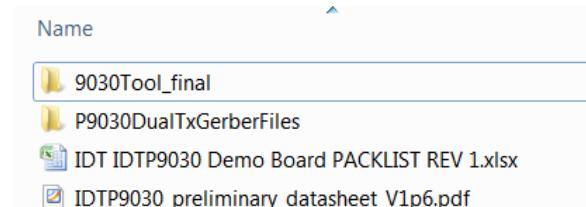

Figure 19. File folder structure on the CDROM.
4. Next, install the Wireless Power Demo Windows GUI software by executing the Setup.exe file in the folder "9036Tool\_final" (Figure 19).
To install the GUI, open the IDTP9036-DEMO CD and run the file: setup-1.0.0.11.exe within the 9036Tool\_final folder. I.e. the path is 9036Tool\_final/setup-1.0.0.11.exe shown in figure 19 or 22. Follow the Setup Wizard instruction shown in Figure 23. This will install the GUI and driver automatically. After the installation process is complete, you may connect the evaluation board to the computer with the USB cable, via the Dongle, and use the software tool. *At this point, a little USB icon should appear at the lower right of the desktop screen. If it does not, then the machine being used should be rebooted. Now connect the JM60 dongle board into the evaluation board and then connect the 12V supply. Now plug the USB cable into the dongle board, and plug the USB cable into the PC.*